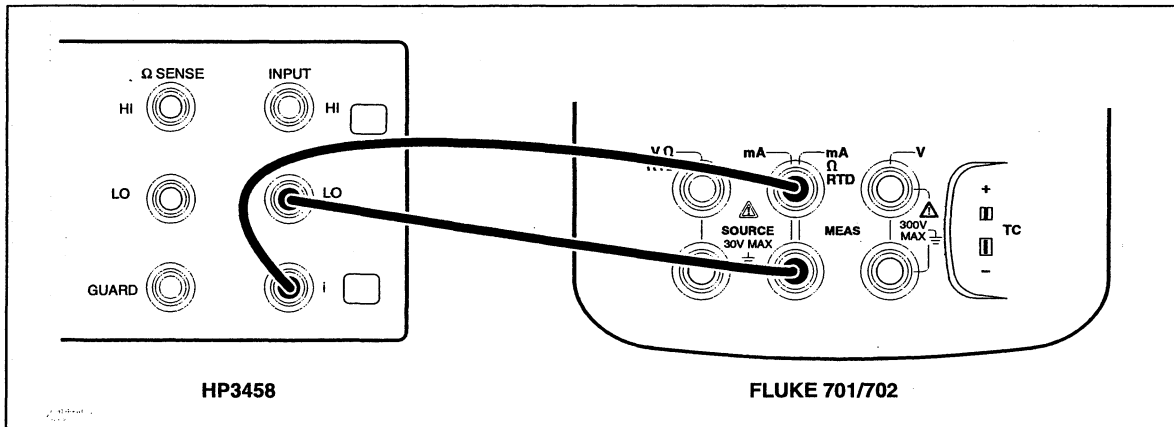

Figure 3-6. DC Current Source Verification Connections
1. Connect the UUT to the HP 3458A DMM as shown in Figure 3-6.